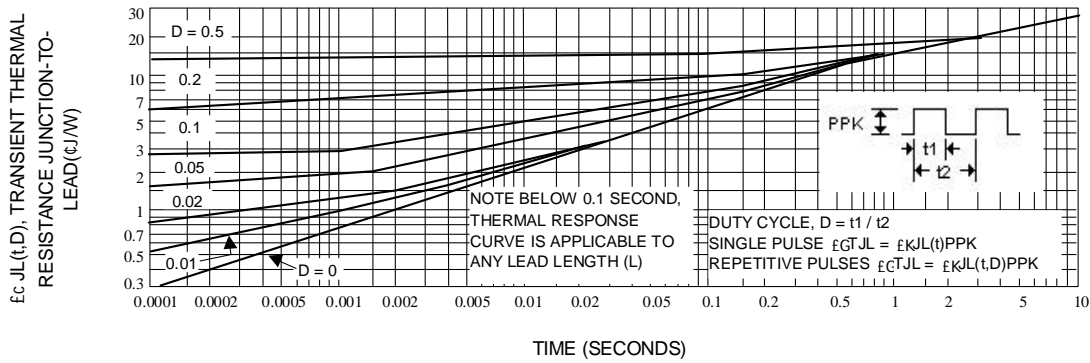
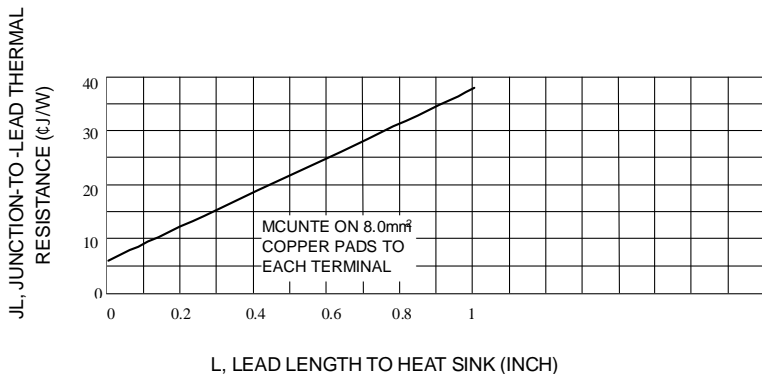
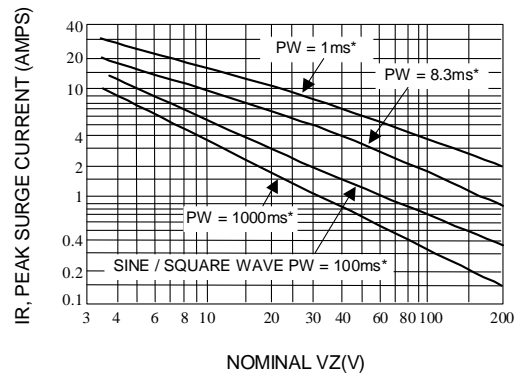
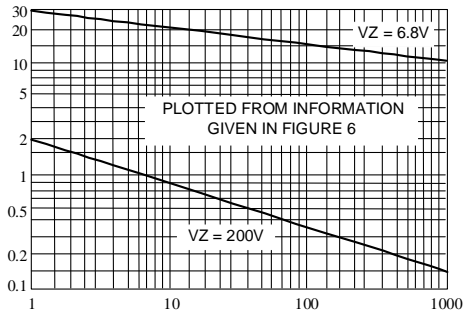

Fig. 3-TYPICAL THERMAL RESPONSE
Fig. 4-TYPICAL THERMAL RESISTANCE
Fig. 5-MAXIMUM NON-REPETITIVE SURGE CURRENT VERSUS NOMINAL ZENER VOLTAGE (SEE NOTE 3)
Fig. 6-PEAK SURGE CURRENT VERSUS PULSE WIDTH(SEE NOTE 3)
3. SURGE CURRENT ( $I_r$ ) - Surge current is specified as the maximum allowable peak, non-recurrent square-wave current with a pulse width, PW, of 8.3 ms. The data given in Figure 5 may be used to find the maximum surge current for a square wave of any pulse width between 1 ms and 1000ms by plotting the applicable points on logarithmic paper. Examples of this, using the 6.8v and 200V zeners, are shown in Figure 6. Mounting contact located as specified in Note 3. ( $T_A=25 \text{ }^\circ\text{C}$ ).
$\theta_{JT}$  is the increase in junction temperature above the lead temperature and may be found from Figure 3 for a train of power pulses or from Figure 4 for dc power.
Data of Figure 3 should not be used to compute surge capability. Surge limitations are given in Figure 5. They are lower than would be expected by considering only junction temperature, as current crowding effects cause temperatures to be extremely high in small spots resulting in device degradation should the limits of Figure. 5 be exceeded.
\*\*\* Data of Figure 3 should not be used to compute surge capability. Surge limitations are given in Figure 5. They are lower than would be expected by considering only junction temperature, as current crowding effects cause temperatures to be extremely high in small spots resulting in device degradation should the limits of Figure. 5 be exceeded